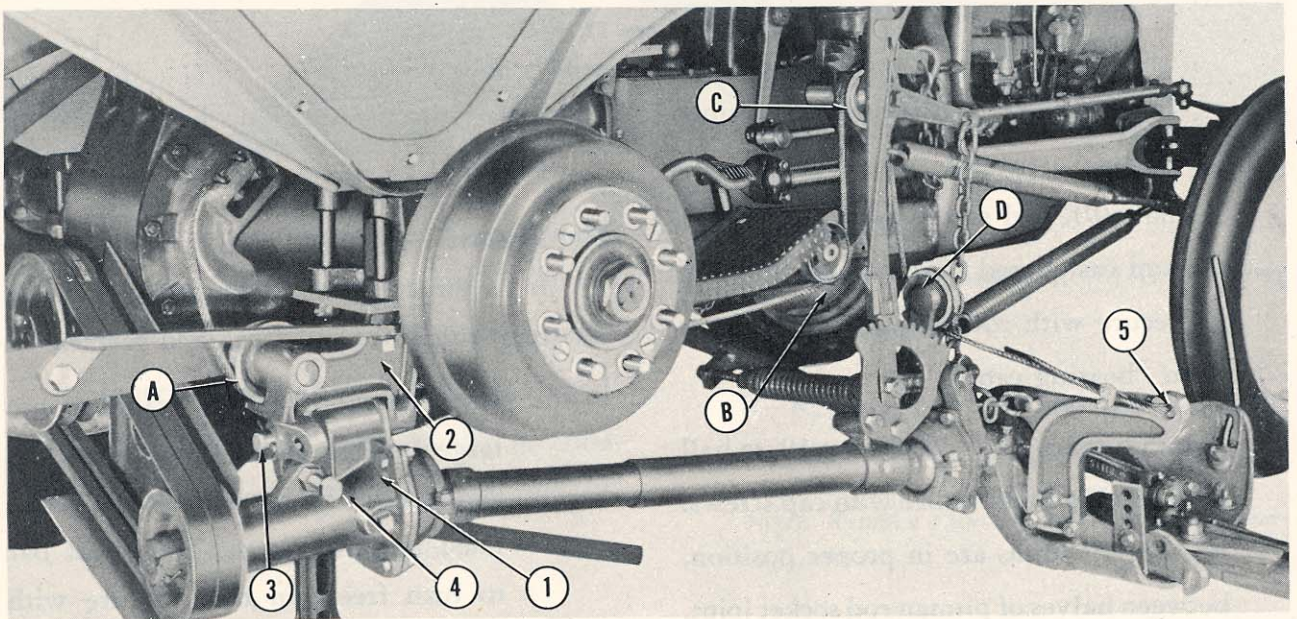

Figure 13
24. Attach drive shaft pulley housing (1), Figure 13, to pulley housing support bracket (2) with pin (3) and secure both ends of pin with cotter pins.
- d. Adjust tension on V-belts by turning adjustment bolt (4), Figure 13, until belts flex about $\frac{1}{2}$ " at a point midway between pulleys. Secure adjustment bolt with jam nut.
- b. Remove wire from cable coil and thread cable over pulleys (A), (B), (C) and (D), as shown in Figure 13.
- c. Place loose end of cable over thimble in hole (5), Figure 13, of elevating lever. Draw cable up tight and secure with cable clamp provided in bag of small parts. Place cable clamp as close to thimble as possible.